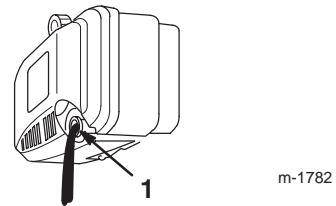

Figure 15
- Tip the lawn mower onto its **left** side, allowing the oil to drain into the drain pan (Fig. 15).